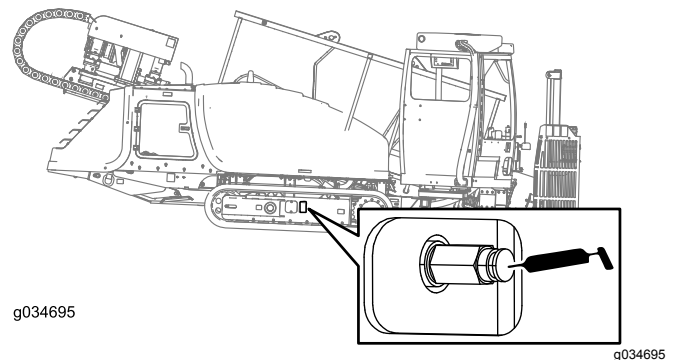

Figure 109
2. Remove dirt and debris found around the track-tension grease valve (Figure 109).
4. Apply grease to the fitting until the tension reaches 31,026 kPa (4,500 psi) as shown in Figure 109.
4. Turn the track-tension grease valve counterclockwise **no more than 1 revolution** (Figure 109).